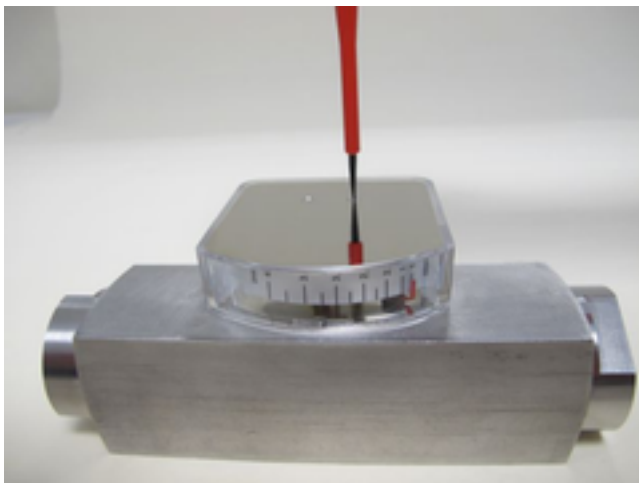

Fig. 43: Loosen the display cover plate
1. ➤ Loosen fixing screws on the display cover plate (Fig. 43)